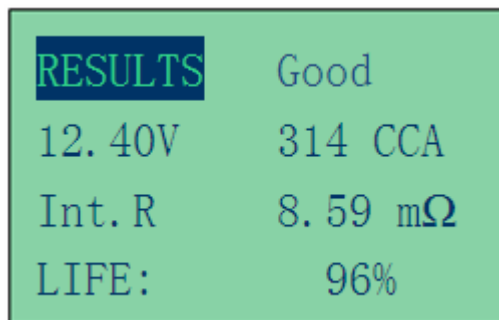

Figure 57
4. Press  key will proceed to display the last test results depending the type of test you had performed earlier. (Fig. 57)